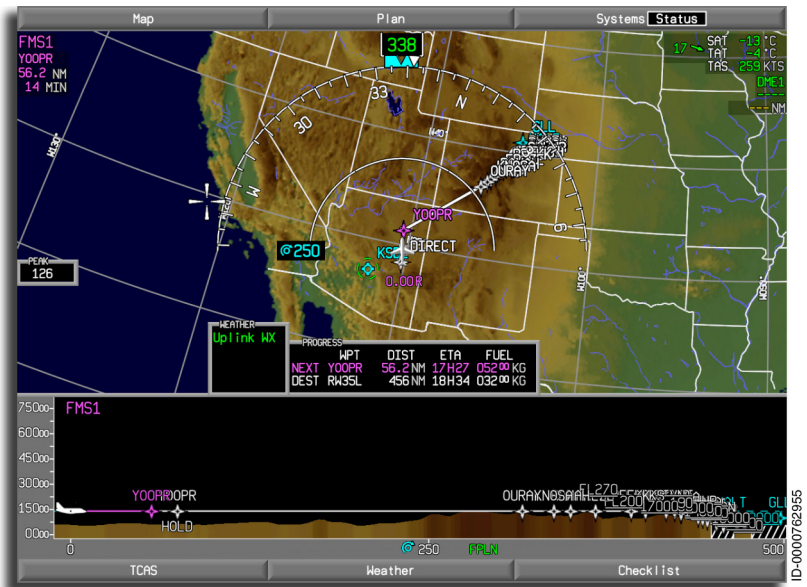

Figure 6-14
- **Boundaries** (MFD with enhanced INAV option only) – Geopolitical boundaries are displayed, including lines of latitude and longitude. The political boundaries displayed consist of international country boundaries and province/state boundaries for Canada and the United States, as shown in Figure 6-14. Coastlines are also displayed.